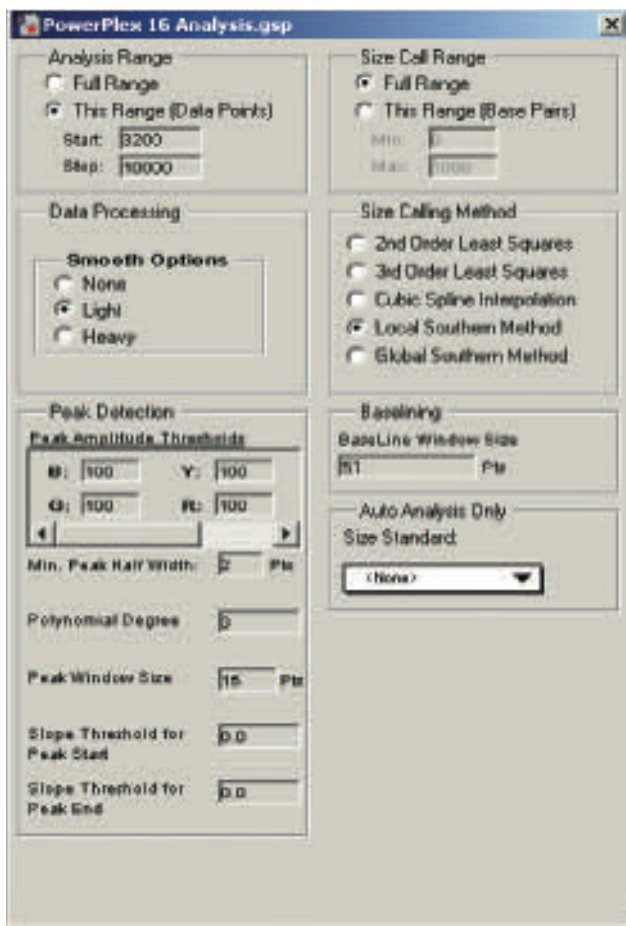

Figure 8. The Analysis Parameters window. The start point of the analysis range, which will vary, is defined in Step 2.
- The recommended analysis parameters are shown in Figure 8.